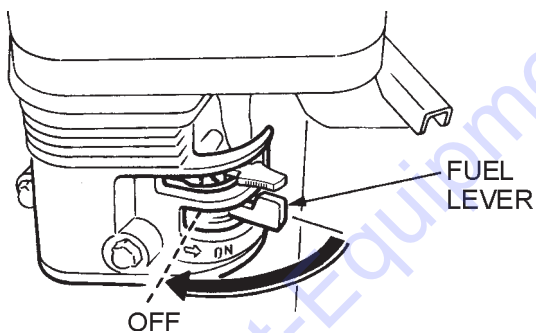

Figure 27. Fuel Valve Lever (Off)
2. Place the fuel valve (Figure 27) lever to the **OFF** position.